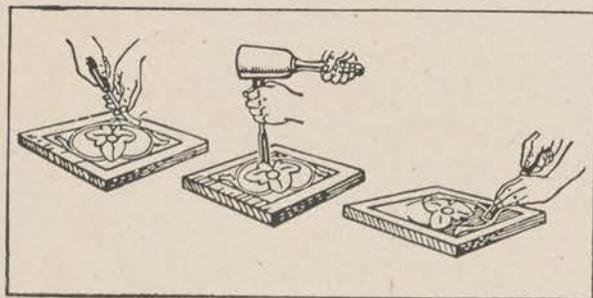

Figure 66.
c. With a design drawn carefully on the wood, proceed as follows (fig. 66): First, outline the long, more or less unbroken contours by shallow grooves made with a veiner or V-tool. Second, the edges of